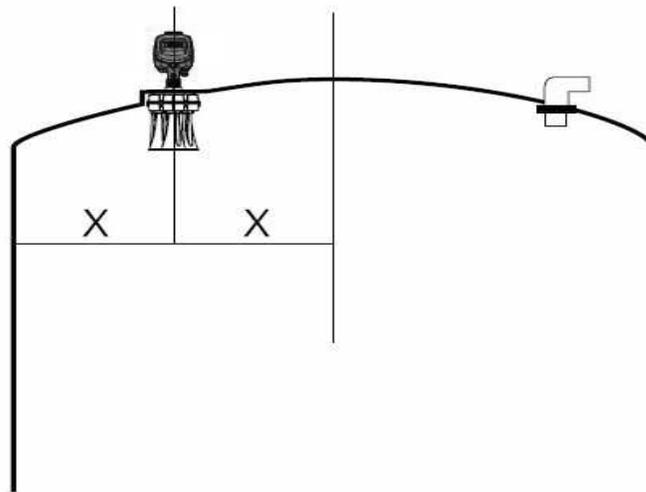

Figure 21 Optimal Position
- ⦿ The optimal position for the scanner is halfway between the center and the side of the vessel, as shown in Figure 21.